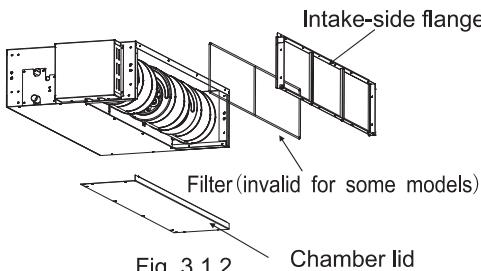

Fig. 3.1.2 Chamber lid
- Remove the intake-side flange, then remove the chamber lid. Refer to Fig. 3.1.2 for the directions.